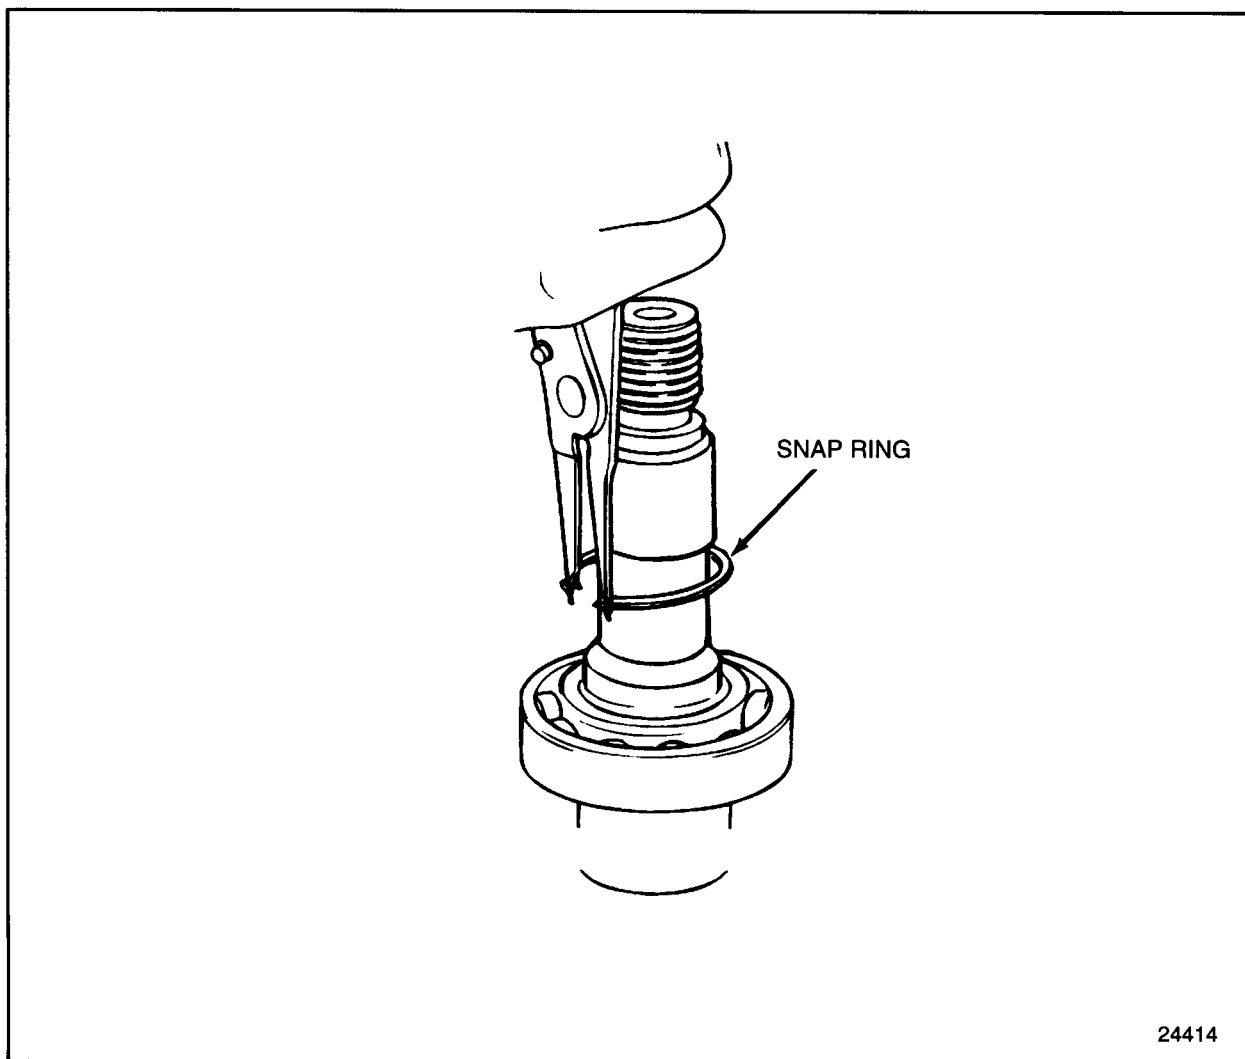

Figure 1-393 Snap Ring Removal
16. Remove the snap ring from the accessory driveshaft. See Figure 1-393.